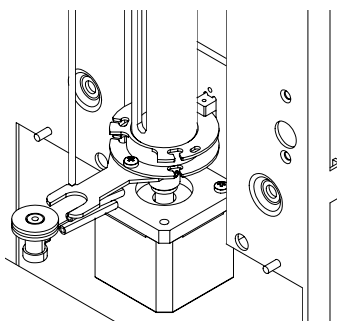

Figure 5-35
8. Then pull off the two inlet tubing of the sample probe wipe block, take out the sample probe wipe block and replace it with a new one (see figure 5-35).